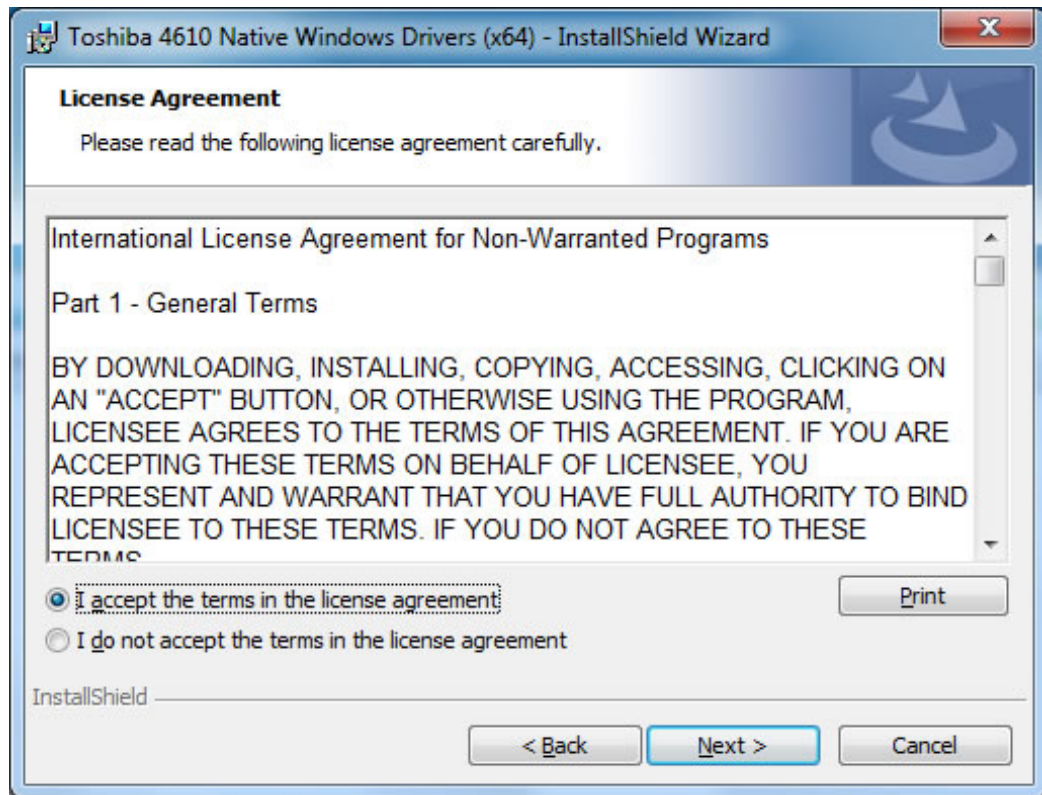

Figure 15. License Agreement window
3. Select **Next** to continue. The License Agreement dialog box opens. See Figure 15.